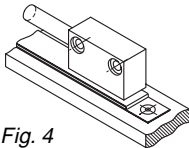

Fig. 4
- Carry out DIP-switch setting according to fig. 4.